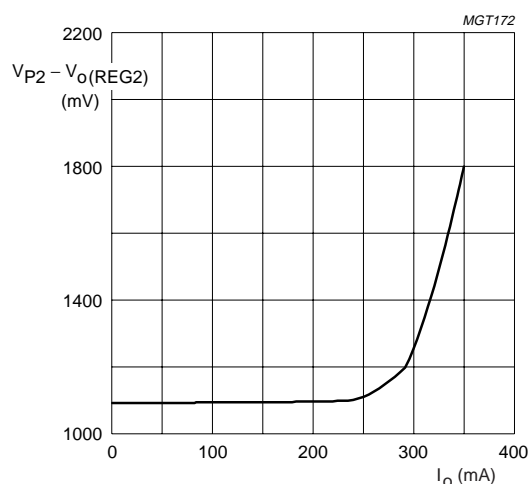

Fig.7 Dropout voltage of V_{P2} as a function of the output current of regulator 2.
5. The dropout voltage of regulator 2 is the voltage difference between V_{P2} and $V_{o(\text{REG2})}$ and depends on the load current (see Fig.7).